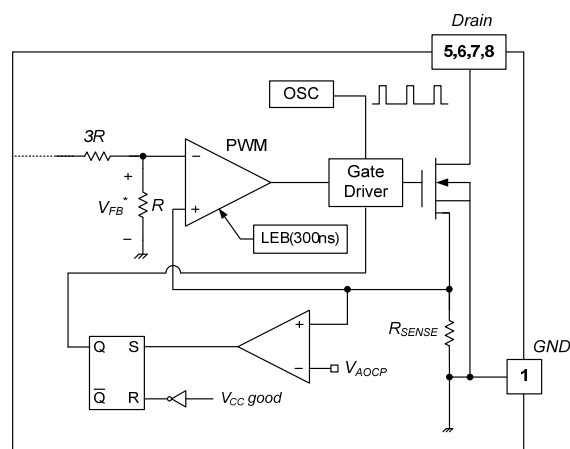

Figure 21. Abnormal Over-Current Protection
4.2 Abnormal Over-Current Protection (AOCP): When the secondary rectifier diodes or the transformer pins are shorted, a steep current with extremely high di/dt can flow through the SenseFET during the minimum turn-on time. Even though the FSD146MRBN has overload protection, it is not enough to protect the FSD146MRBN in that abnormal case; since severe current stress is imposed on the SenseFET until OLP is triggered. The FSD146MRBN internal AOCP circuit is shown in Figure 21. When the gate turn-on signal is applied to the power SenseFET, the AOCP block is enabled and monitors the current through the sensing resistor. The voltage across the resistor is compared with a preset AOCP level. If the sensing resistor voltage is greater than the AOCP level, the set signal is applied to the S-R latch, resulting in the shutdown of the SMPS.